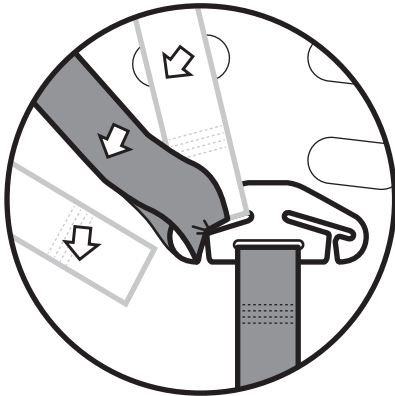

Figure 4
- Step 5:** The shoulder harness straps go directly from the shoulder slot holes to the spreader plate. Thread each shoulder harness strap back onto the metal spreader plate through the gate (see Figure 4).